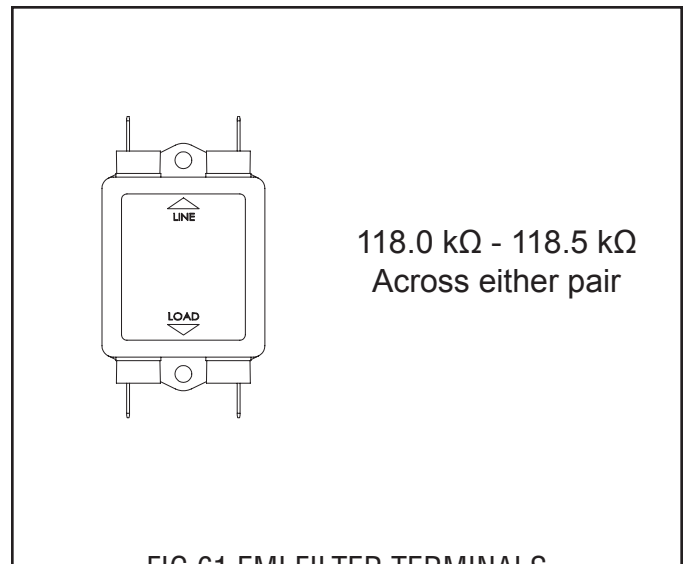

FIG 61 EMI FILTER TERMINALS
3. Check for resistance between the two red leads on the EMI Filter. (Fig 61)